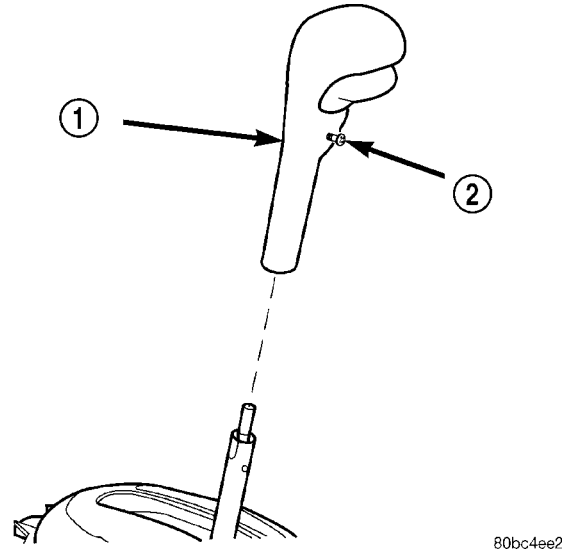

Fig. 259 Gearshift Knob Removal/Installation
(1) Disconnect the battery negative cable.
(2) Loosen set screw and remove knob from shifter handle (Fig. 259).